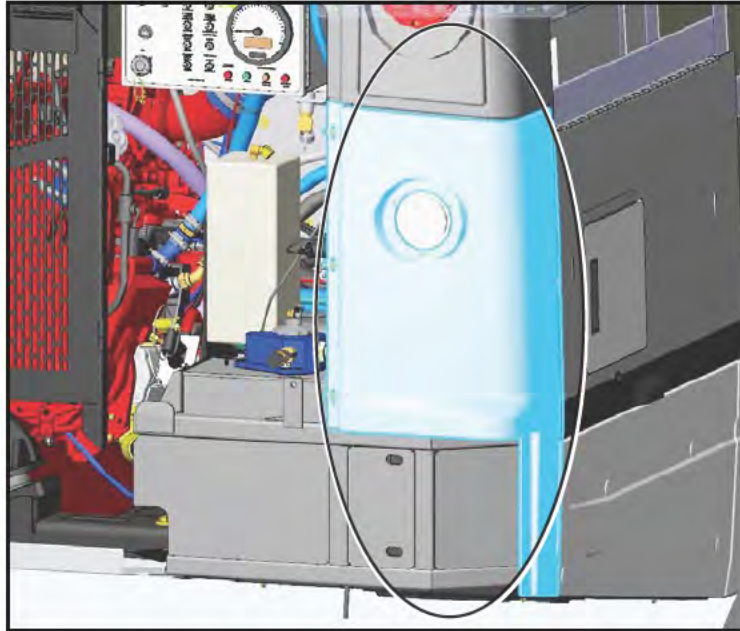

Figure 4 - Remove Rear Right Corner
1.3. Remove the rear right corner. See Figure 4.
1.4. If applicable, remove the 2 bolts that hold the vertical surge tank and move forward to create more room. Retain hardware. See Figures 4 and 5.
- 1.22. Install rear right corner panel. Refer to Figure 4. If needed, white nylon rivet is part N45830, replacement black cable ties are G5007996 and blue ones are N56339.